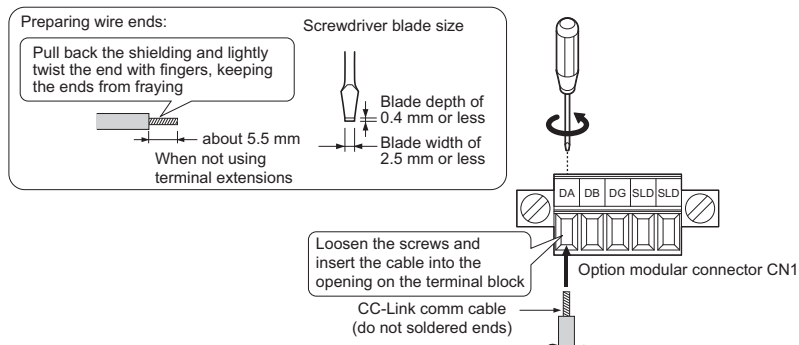

Figure 23 Connect Cable Wiring
1. Connect the communication cables to the option modular connector CN1 as shown in **Figure 23**.